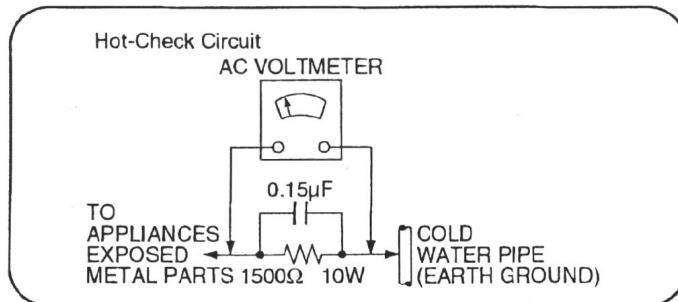

Figure. 1
### 1.1.2. LEAKAGE CURRENT HOT CHECK (See Figure 1.)
- Connect a  $1.5k\Omega$ , 10 watts resistor, in parallel with a  $0.15\mu F$  capacitors, between each exposed metallic part on the set and a good earth ground such as a water pipe, as shown in Figure 1.